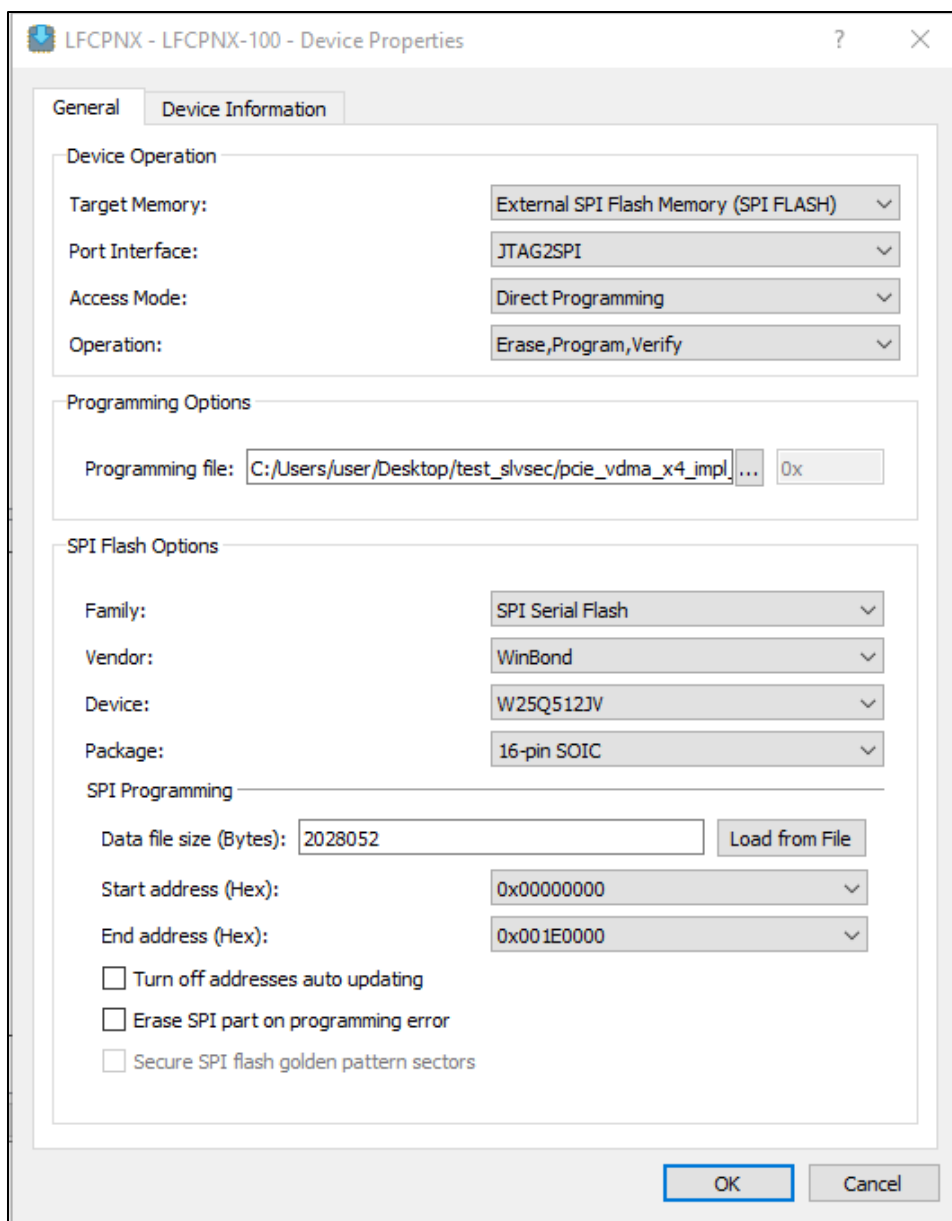

Figure 8.3. Device Properties
3. In the pop-up Device Properties dialog (Figure 8.3), select **External SPI Flash Memory (SPI FLASH)** for **Target Memory**, **JTAG2SPI** for **Port Interface**, and **Direct Programming** for **Access Mode**.
5. For **SPI Flash Options**, select **WinBond W25Q512JV** for **Device**, **16-pin SOIC** for **Package**, and make other selections as shown in Figure 8.3 below.